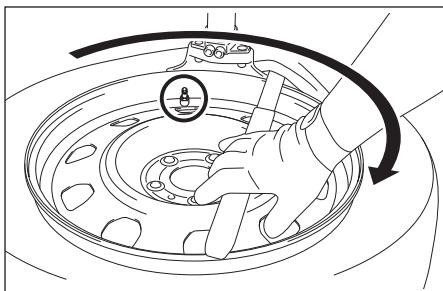

Fig. 2
5. When dismounting the tire from the rim the sensor should be slightly ahead of the tire machine head. The tire should be dismounted without contact to the sensor which may cause damage to the sensor. (see Fig. 2)